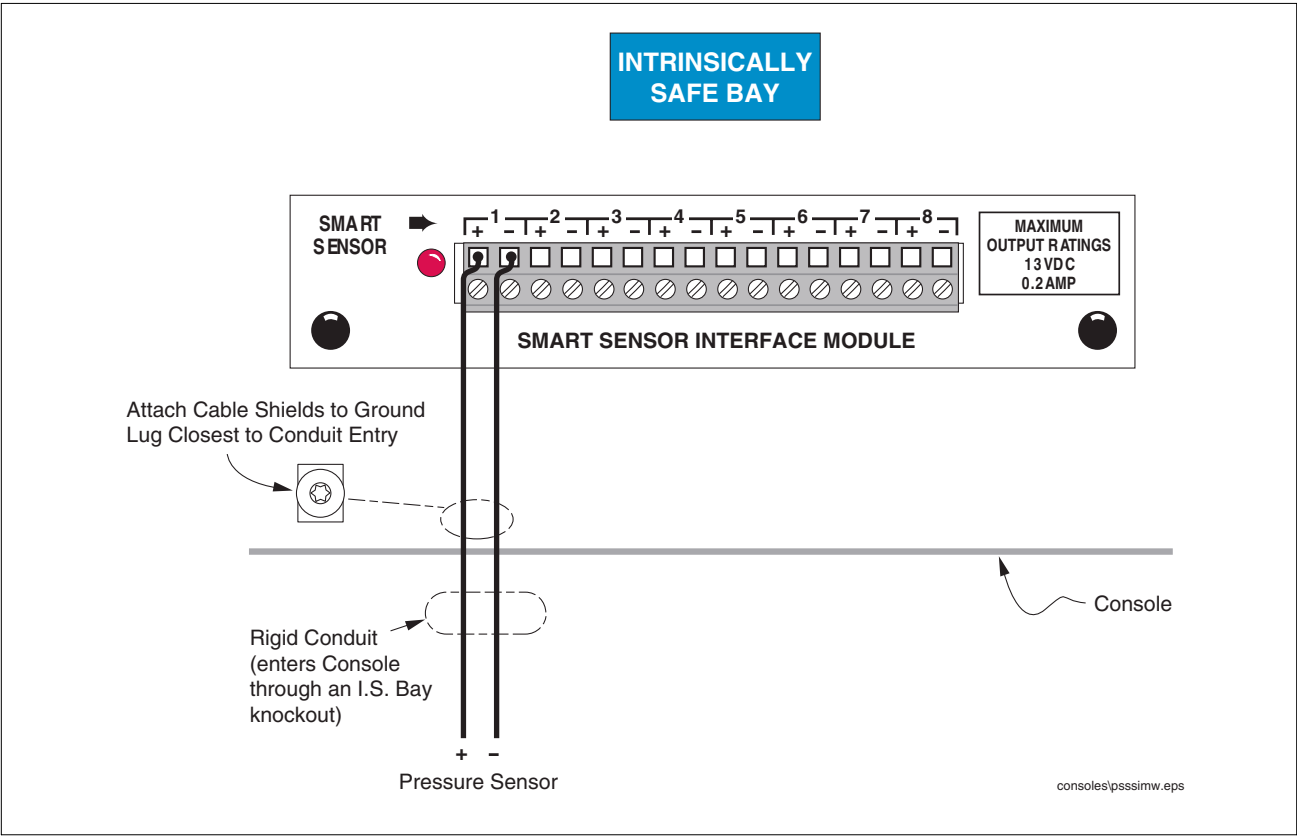

Figure 4. Connecting Pressure Sensor to TLS-3XX Smart Sensor Interface Module
14. Terminate field wiring into TLS Console and connect to Smart Sensor Module (TLS-3XX - Figure 4). Note: observe polarity! The cable length between the console and sensor must not exceed the distance stated in the TLS-3XX Site Prep manual (P/N 576013-879).